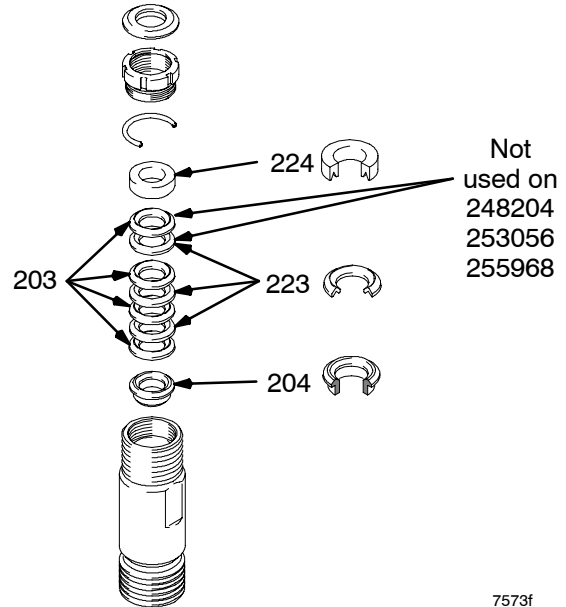

Fig. 12
Fig. 12. Soak all leather packings in SAE 30W oil for 1 hour minimum prior to assembly. Place male gland (204) in cylinder. Alternately stack UHMWPE (203) and leather packings (223) (note orientation). Place female gland (224) in top of cylinder. Seat packings.